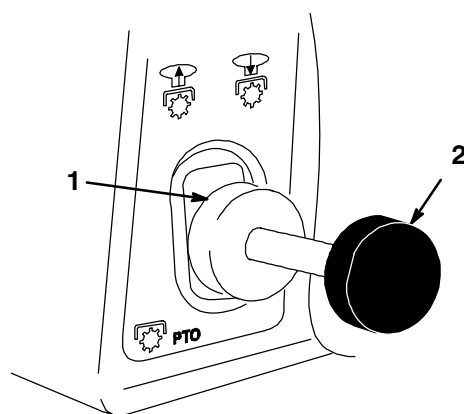

Figure 7
3. Push the PTO (power take off) to “OFF” (Fig. 7).
- Push the PTO (power take off) to “OFF” (Fig. 7).
- Pull the power take off (PTO) to “ON” (Fig. 7).
- Push the power take off (PTO) to “OFF” (Fig. 7).